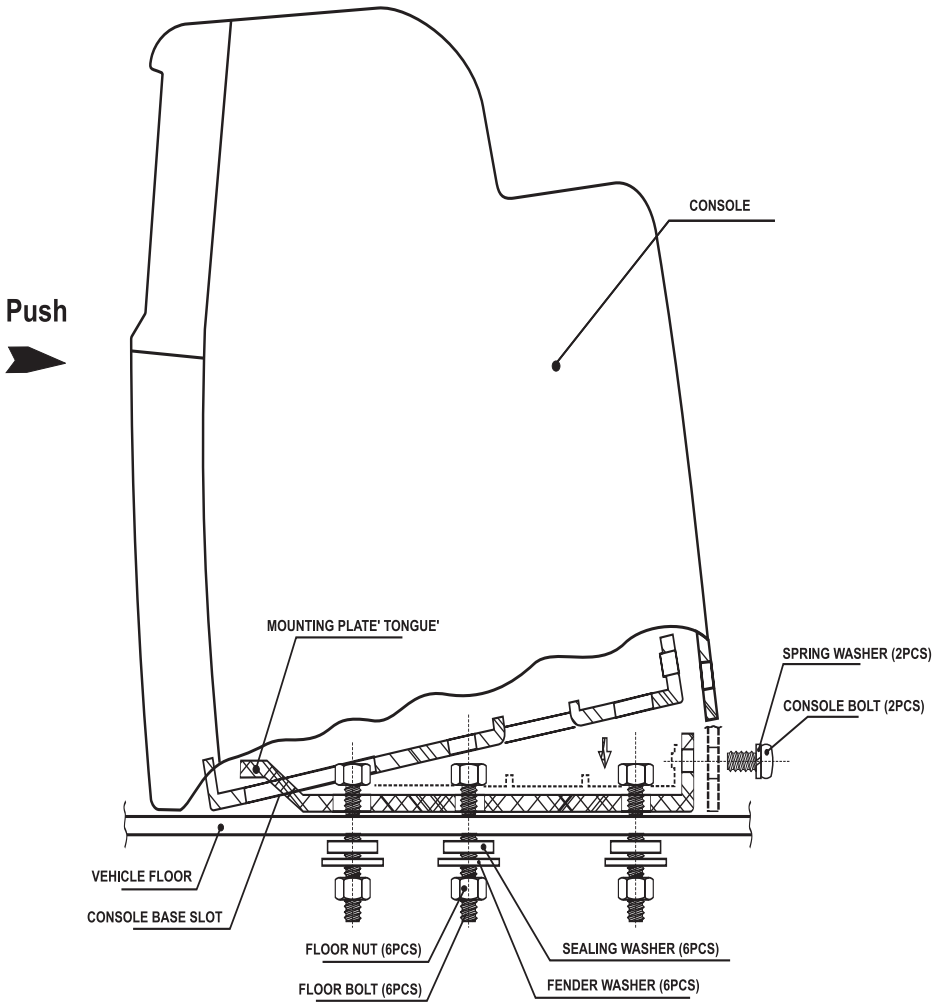

Figure 2
F. Installation Guide (Refer to Figure 2)